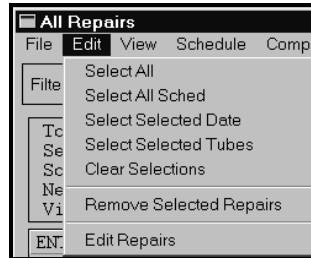

Figure 3-125. All Repairs > Edit Menu
There are seven (7) choices on the Edit Menu shown in Figure 3-125. They are Select All, Select All Sched, Select Selected Date, Select Selected Tubes, Clear Selections, Remove Selected Repairs, and Edit Repairs.